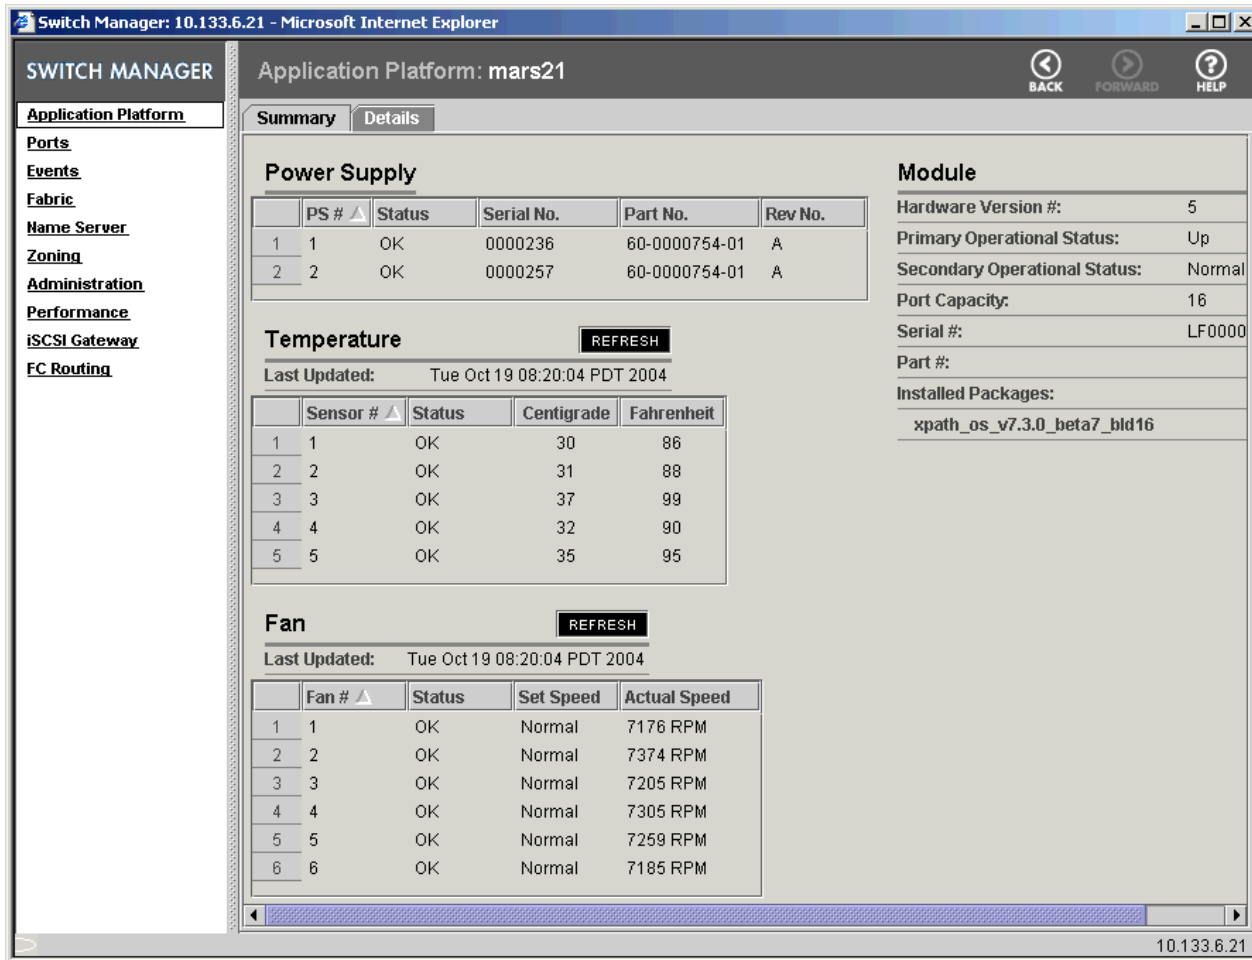

Figure 11 Application Platform page with Details tab selected
3. Click the **Details** tab to display information about the hardware components (see Figure 11 on page 32). To refresh the display for the temperature and fan status, click the corresponding **Refresh** button.